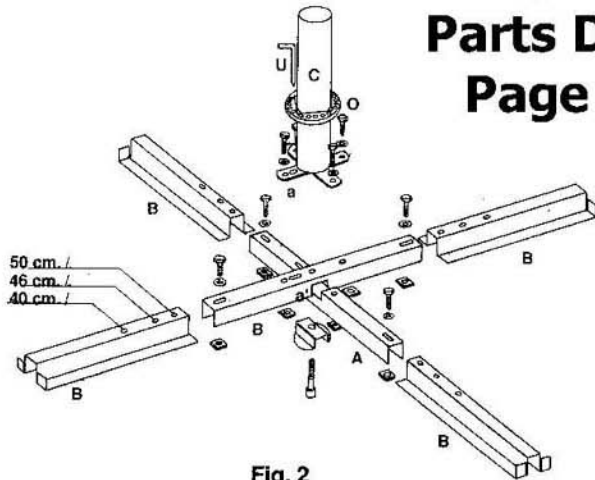

Fig. 2
### **ROTATION OF THE UMBRELLA AROUND THE BASE (fig. 5 - fig. 2)**
**IMPORTANT:** The key (U) must be inserted into the adjustment ring (O) at hole (a) of the base pole (C) (fig. 2).